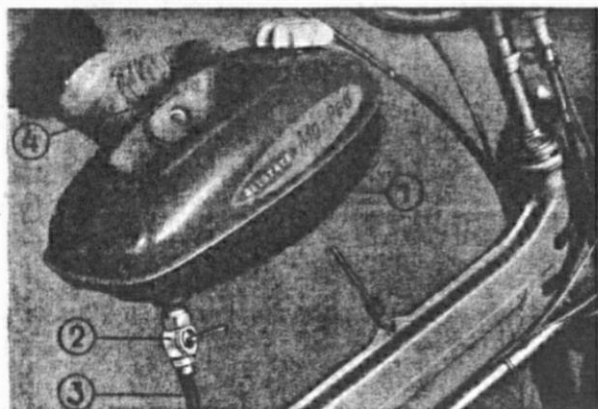

Fig. 23: Mounting the fuel tank
3. Dismantle fuel tank (Fig. 23/1) (for better accessibility): shut fuel cock (Fig. 23/2) pull off fuel pipe (Fig. 23/3), remove toolbox lid, take out tools, unfasten nut, remove washer and pressure plate (Fig. 23/4) of the rubber support, and lift fuel tank clear.